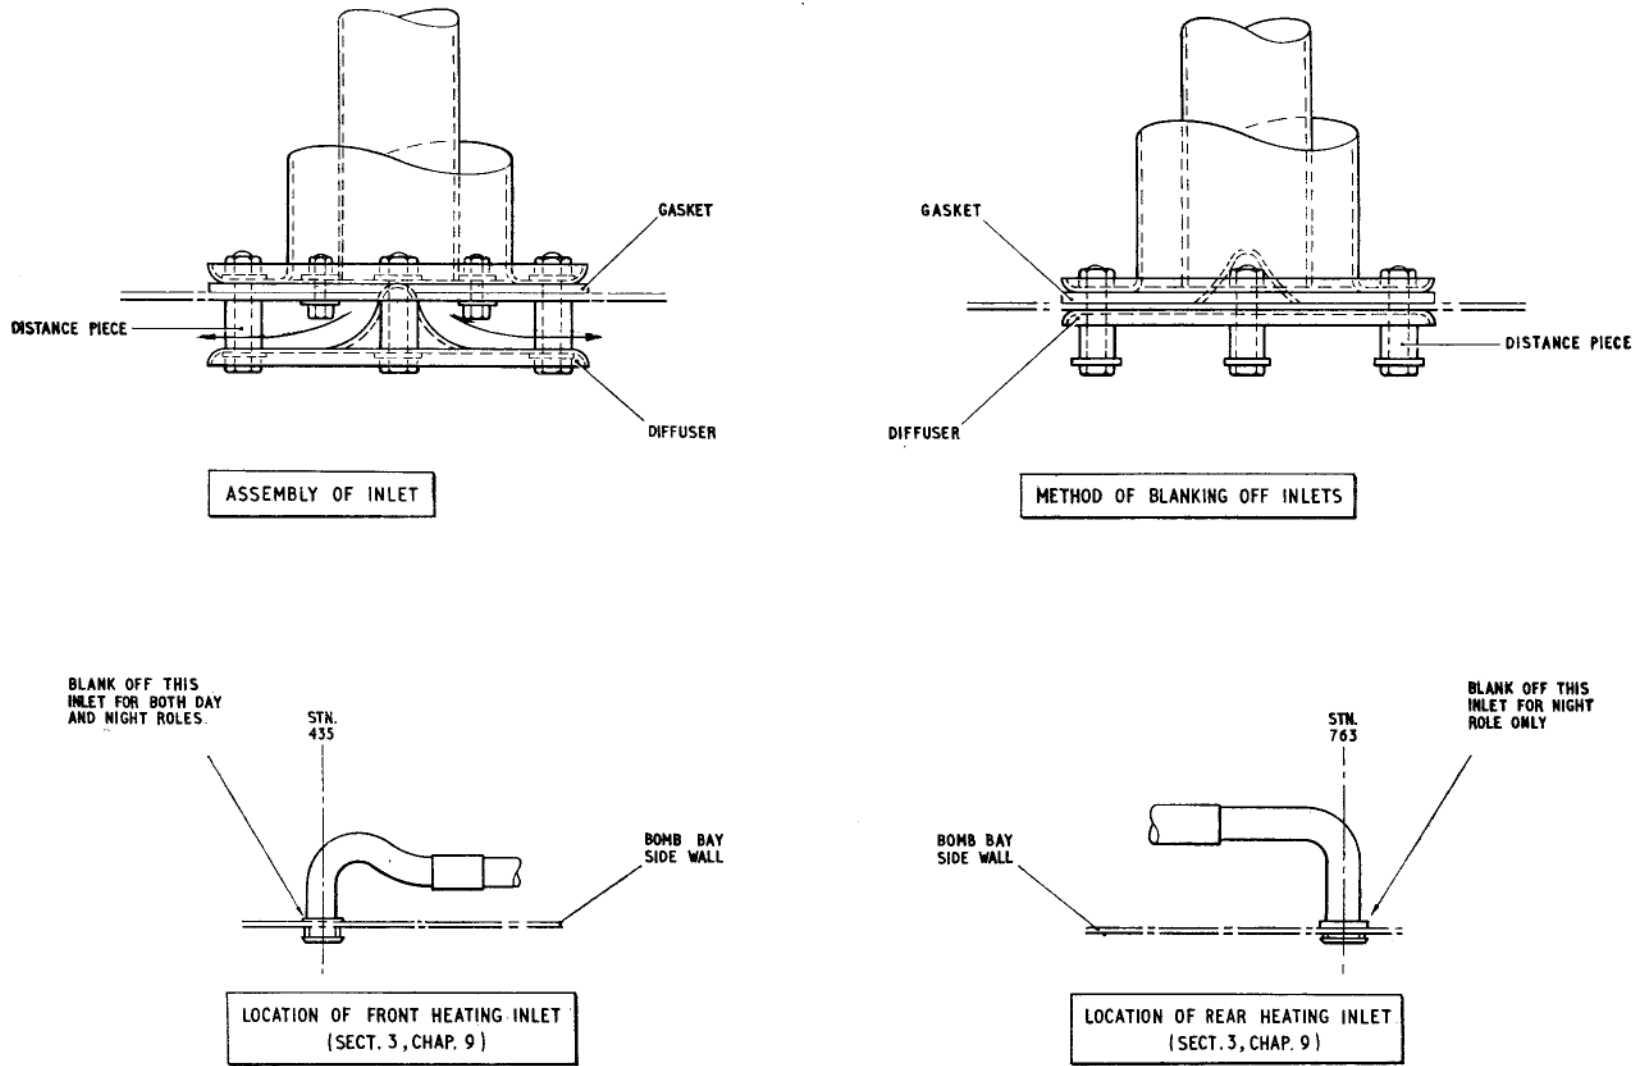

Fig. 1. Blanking off heating inlets
- (b) Remove the diffuser (fig. 1) by removing the four nuts, washers, distance pieces and bolts securing it to the bomb-bay wall.
- (d) Fit the diffuser flush with the bomb-bay wall and, with the distance pieces fitted externally, secure with the attachments removed in operation (b) (fig. 1).
- (4) Return the bomb-bay doors from the "servicing" to the "closed" position, following the procedure given in Sect. 3,